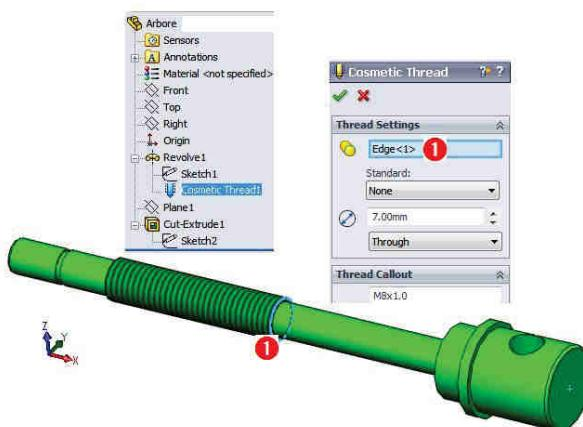

Fig. 2.60
- Selectie muchie circulară ① de diametru  $\phi 8$ , fig. 2.60.
- Select the circular edge ① with a  $\phi 8$  diameter, fig. 2.60.